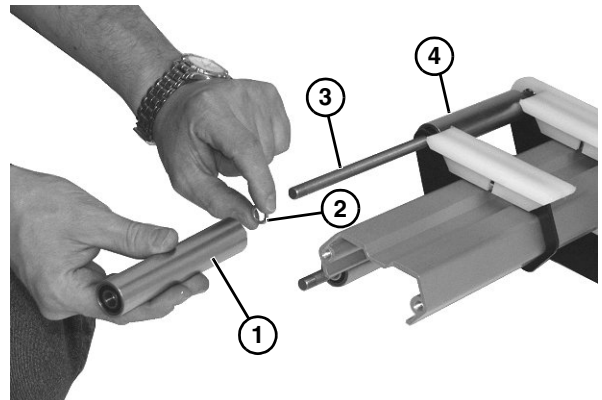

Figure 45
9. Remove roller assembly (**Figure 45, item 1**) and washer (**Figure 45, item 2**) from axle shaft (**Figure 45, item 3**).
10. Remove remaining roller assembly components (**Figure 45, item 4**) on opposite side.